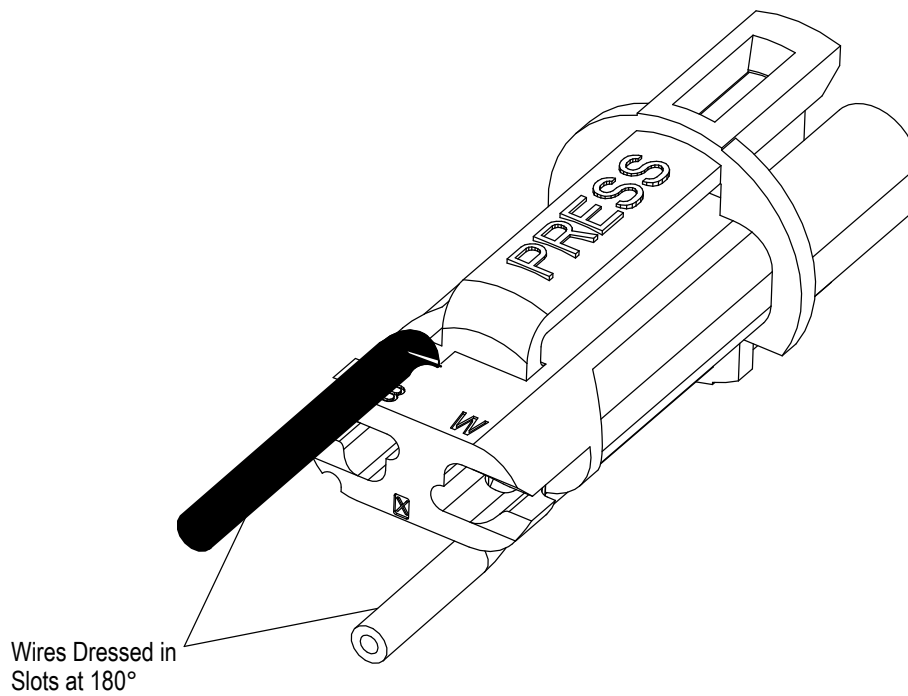

Figure 6
6. Dress the wire 180° to complete the process. See Figure 6.